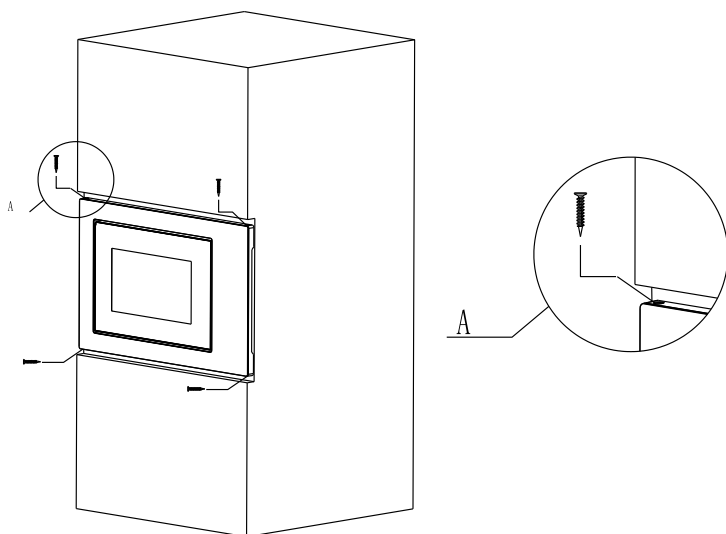

Fig. 4
d) Use the screws of parts packing to secure the microwave oven in the cabinet. (Fig. 4)